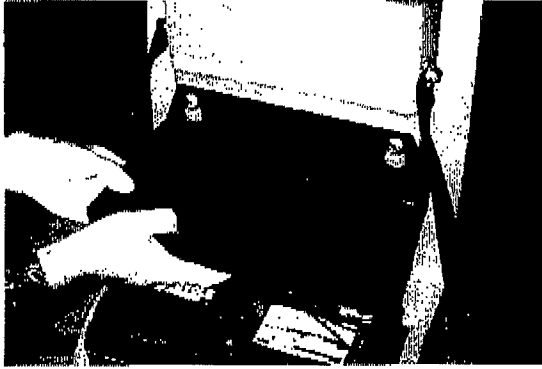

FIG. 3
5. After connecting cables to bottom battery, carefully hang metal battery tray on studs located above bottom battery. Place top battery into tray with posts positioned towards rear of machine. Secure top battery with strap (Figure 3).